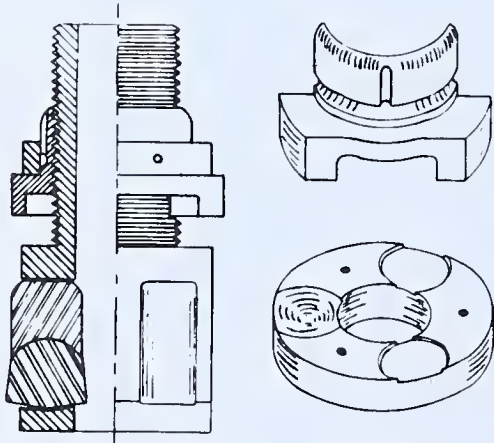

FIG. 475 — No. 7567 Expander
7. Insert mandrel No. 66 (See Fig. 473) in the expander No. 7567. See Fig. 475.